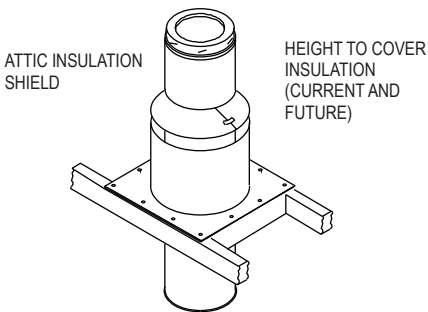

Figure 13
8. Install Attic Insulation Shield: The Attic Insulation Shield is required where an unenclosed chimney passes into an unoccupied space. Its purpose is to prevent current and future combustibles (debris, insulation, etc.) from getting too close to the chimney (**Fig.13**). An installed Attic Insulation
**B5.** Secure the Attic Insulation Shield to the top of the framed opening using at least (3) 8-penny nails or (3) #8, 1-1/2" wood screws per side (**Fig.13**).